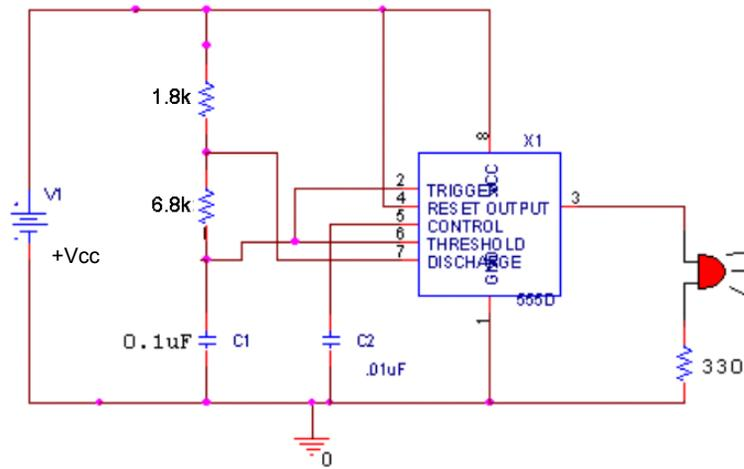

Figure D-5.
- Wire the astable multivibrator shown in Figure D-5 on your protoboard.